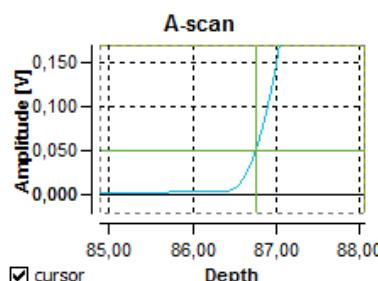

Fig. 58: Determining the time of flight by means of a threshold value
**Threshold for velocity:** Defines the threshold value of the A-scan amplitude in millivolt at which the time of flight or velocity of sound is calculated (figure 58).